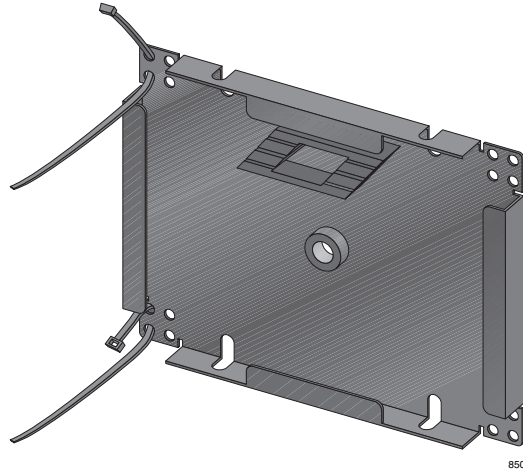

Figure 20. Inserting the Wire Ties
3. Insert a small clear wire tie through the holes in the left upper and lower mounting tabs on the bottom portion, as shown in Figure 20.